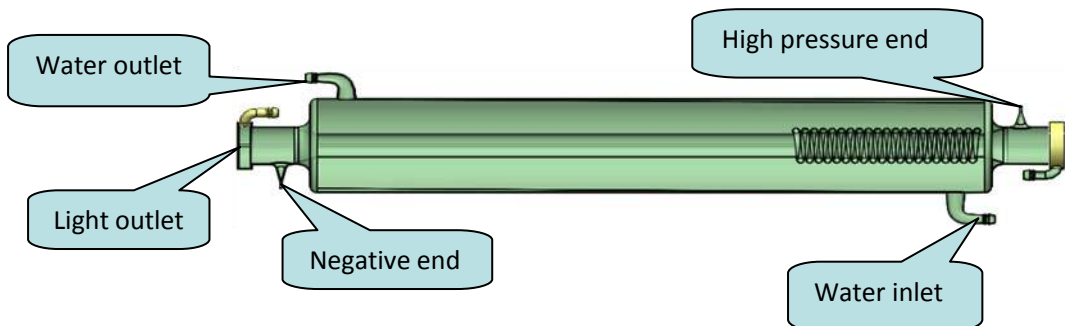

Fig.3-7
- Finally, install the laser tube power cord with high voltage and earthing at the position of two ends (as figure 3-7).